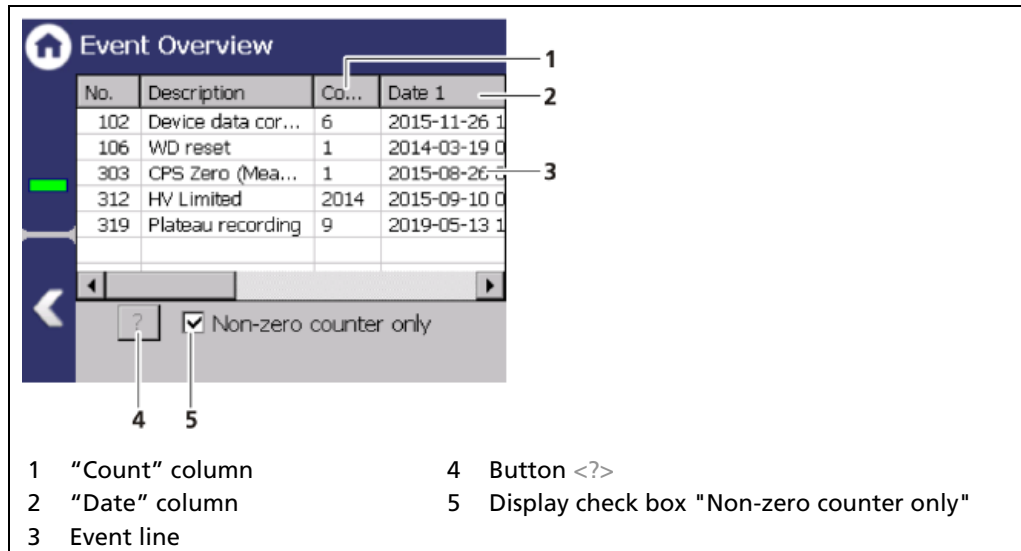

Fig. 60 Event Overview
1. Click on a line in the list (Fig. 60, item 3).
2. Click on <? > (Fig. 60, item 4).